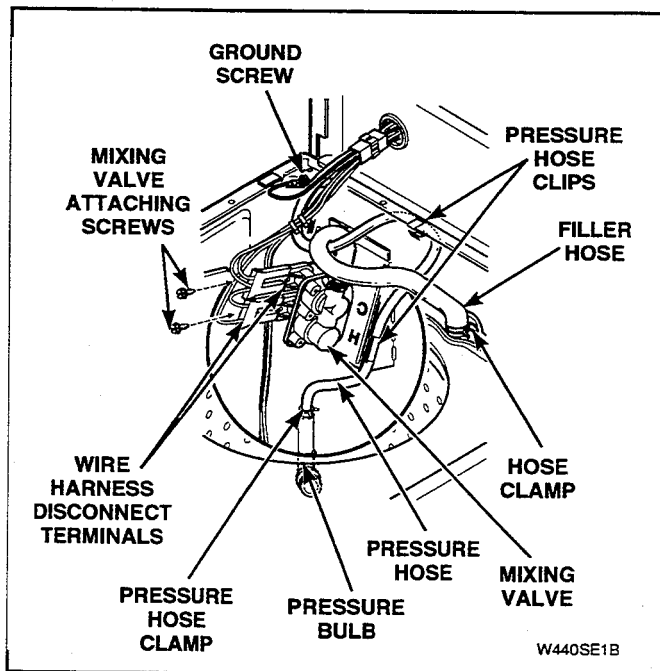

Figure 5-23
- Pull top forward far enough to permit disconnecting ground wires from top left rear corner gusset of washer cabinet. See Figure 5-23.
- Disconnect wires from mixing valve solenoids at quick disconnect blocks. See Figure 5-23.
- Disconnect wire harness at disconnect blocks. See Figure 5-23.
- Loosen hose clamp and remove pressure hose from pressure bulb. See Figure 5-23.
- Remove pressure hose from clips located on mixing valve cabinet flange and top flange at rear of cabinet. See Figure 5-23.
- f. Remove two screws holding mixing valve to mounting bracket at rear of washer cabinet. See Figure 5-23.
- g. Pull mixing valve out toward front of washer far enough to permit disconnecting water inlet and fill hoses from mixing valve. See Figure 5-23.
- h. Remove wires and quick disconnect blocks from mixing valve solenoid terminals. See Figure 5-23.